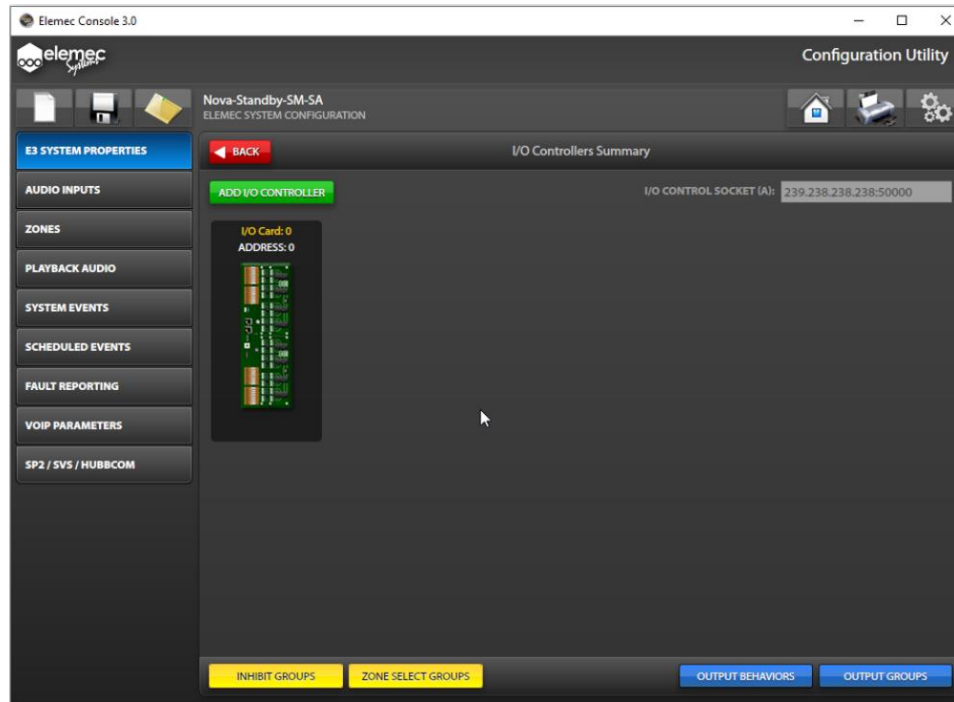
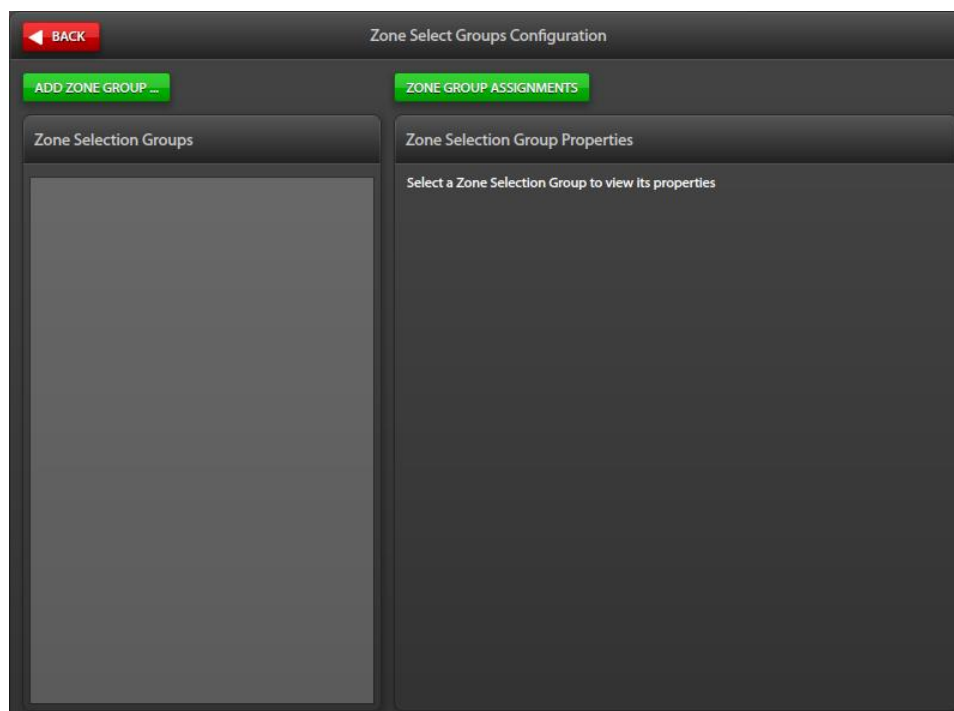
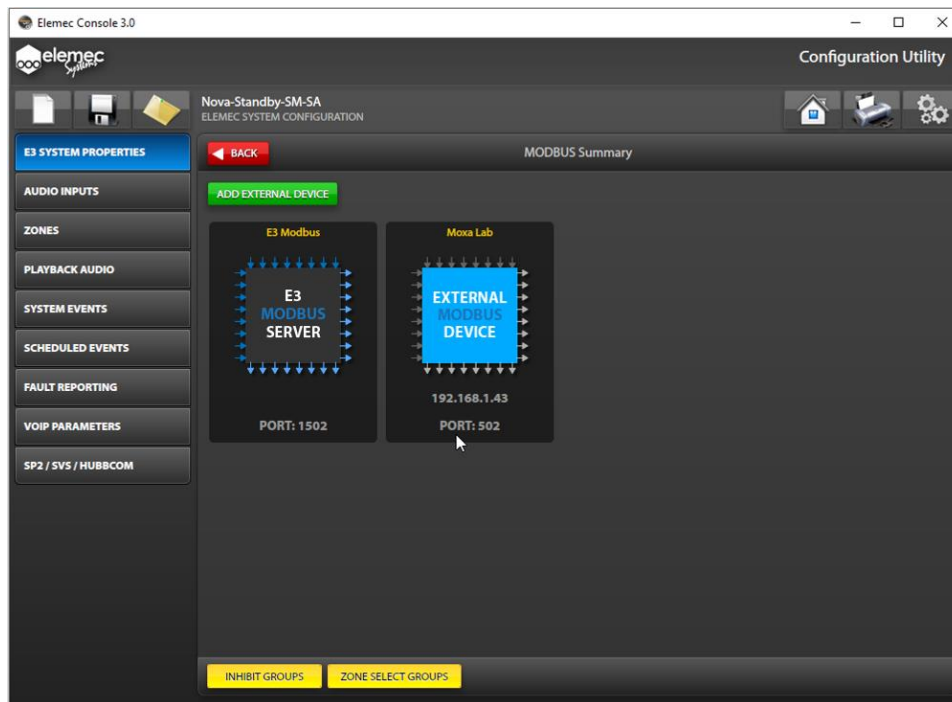

Figure 53. I/O Controllers Summary
Figure 64. Zone Select Groups Configuration
Figure 69. MODBUS Summary
Inhibit groups allow for selectively inhibiting inputs to the E3 system. Configure system inputs to trigger an inhibit group that inhibits all inputs in the group. Click **INHIBIT GROUPS** to access the INHIBIT GROUP CONFIGURATION screen from the I/O CONTROLLERS SUMMARY screen (see Figure 53).
Click the **ZONE SELECT GROUPS** button, from the I/O CONTROLLERS SUMMARY screen (see Figure 53) or the MODBUS SUMMARY screen (see Figure 69) to access the ZONE SELECT GROUPS CONFIGURATION screen (see Figure 64).
1. Click the MODBUS button from the SYSTEM PROPERTIES screen to access the MODBUS SUMMARY screen (see Figure 69).